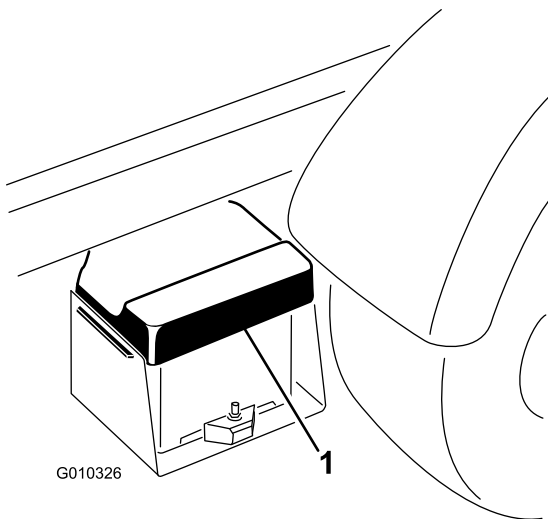

Figure 47
1. Squeeze the battery cover to release the tabs from battery base. Remove the battery cover from the battery base (Figure 47).